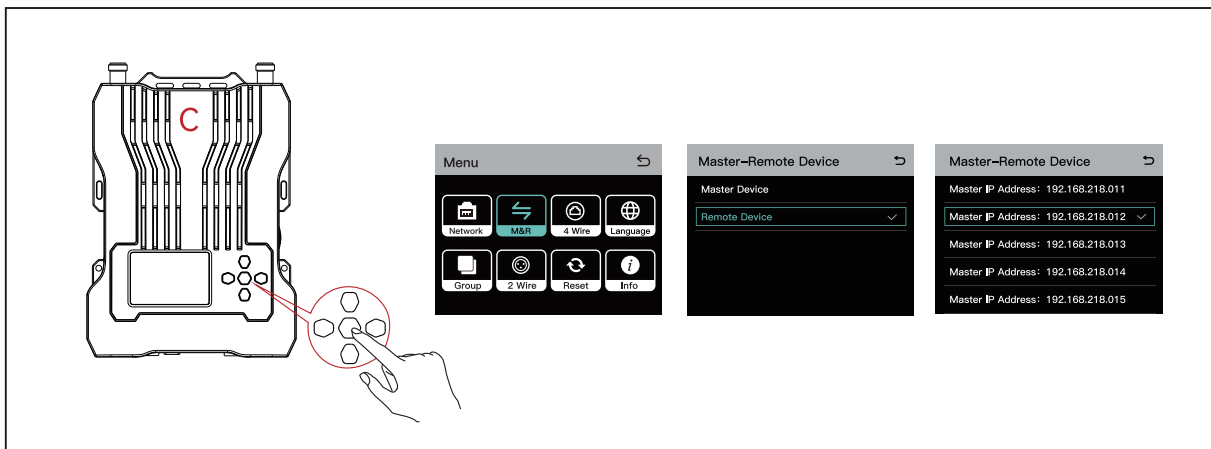

Figure 4
5. Enter the menu interface on base station C, select **Master-Remote Device > Remote Device**, press the menu/confirmation button, and select the IP address of the corresponding master device. (See Figure 4)